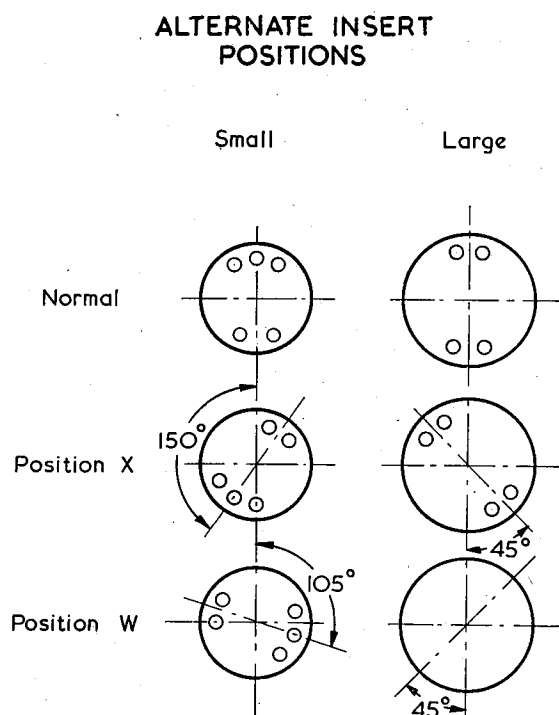

Fig. 3. Alternative insert orientations
10. To avoid mismating of adjacent connectors, provision has been made for the inserts of the connectors to be assembled in alternative positions X and W as shown in Fig. 3.